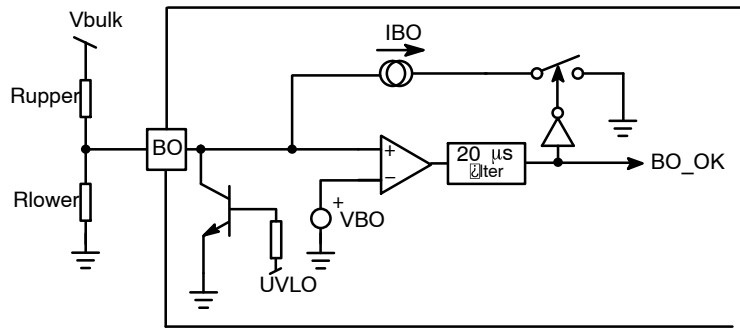

Figure 35. The Internal Brown-out Input Configuration
designed bulk voltage level would result in current overstress of converter primary power stage. The NCP1398 offers Brown-Out input (BO) that allows for precise bulk voltage turn-on and turn-off levels adjustment. The internal circuitry, depicted by Figure 35, offers a way to observe the high-voltage (Vbulk) rail. A high-impedance resistive divider made of Rupper and Rlower, brings a portion of the Vbulk rail to BO pin. The Current sink (IBO) is active below the Vbulk turn-on level. Therefore, the turn-on level is higher than the one given by the division ratio of resistive divider. To the contrary, when the internal BO\_OK signal is high, i.e. application is running, the IBO sink is disabled. The Vbulk turn-off level is thus given by BO comparator reference voltage and resistor divider ratio only. Advantage of this solution is that the Vbulk turn-off level reaches minimum error. This error is given only by VBO reference and resistor divider precisions and is not affected by IBO hysteresis current tolerance. The NCP1398 thus allows better resonant tank optimization.